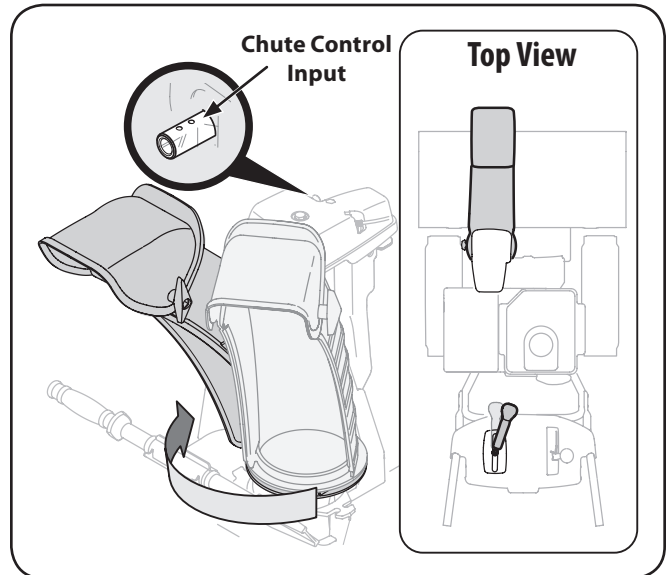

Figure 3-6
4. Squeeze the trigger on the joystick and rotate the chute by hand to face forward. The holes in the chute control input will be facing up. See Fig. 3-6.
**NOTE:** The joystick will be angled slightly to the right at the one o'clock position. See "Top View" in Fig. 3-6.